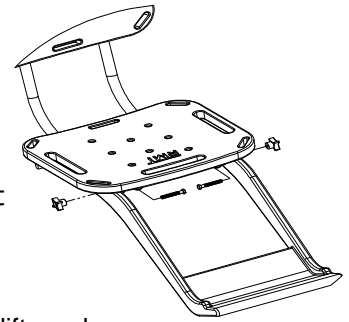

Figure 7. Footrest
13. Attach footrest to seat with bolts and thumbnuts as shown in **Figure 7**.